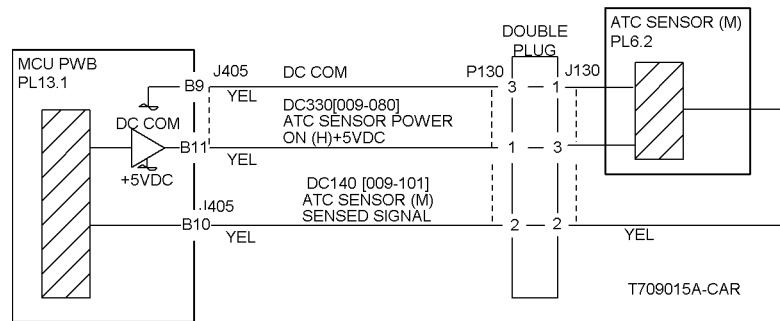

Figure 1 9-381 Rap Circuit Diagram - ATC Sensor M
Refer to **Figure 1** and check connector **P/J130**. If the check is OK, replace the ATC Sensor (M) (**PL 6.2**). If the problem continues, replace the MCU PWB (**PL 13.1**).